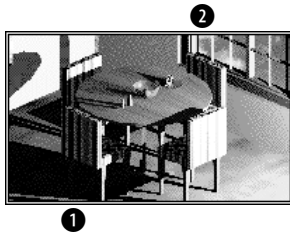

Figure 27-8: Clipping the raster image.
9. Choose Modify ⇨ Clip ⇨ Image. At the Select image to clip: prompt, select the image again, which is shown in Figure 27-8. Follow the prompts:
Specify first corner point: If OSNAP is on, turn it off. Pick ❶ in Figure 27-8.